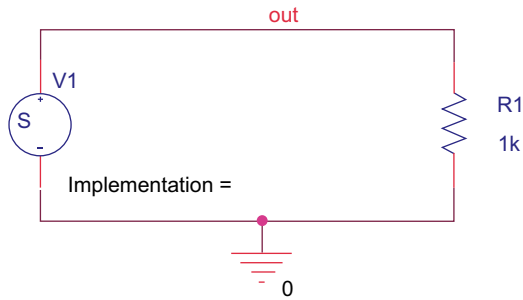

FIGURE 6.17
Under configured files you will see the stimulus.stl file (see Figure 6.17). If you do not see the stimulus file then you can browse for the Filename. You can then add the stimulus file to the profile (Add to Profile). However, there are other options:
3. Draw the circuit diagram in Figure 6.17. The VSTIM source (V1) is from the Sourcestm library.